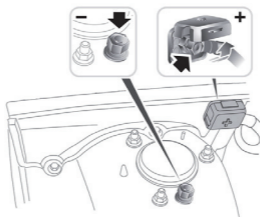

Figure 4.1.2
- **DO NOT TEST THROUGH THE JUMPSTART POSTS.** For models that hold the battery under the seat or in the trunk, the manufacturer usually includes jumpstart connector conductor posts under the hood (See Figure 4.1.2) to make jumpstarting easier. However, to ensure data accuracy and operation safety, **DO NOT CONNECT THE BATTERY TESTER TO THE JUMPSTART POSTS.**